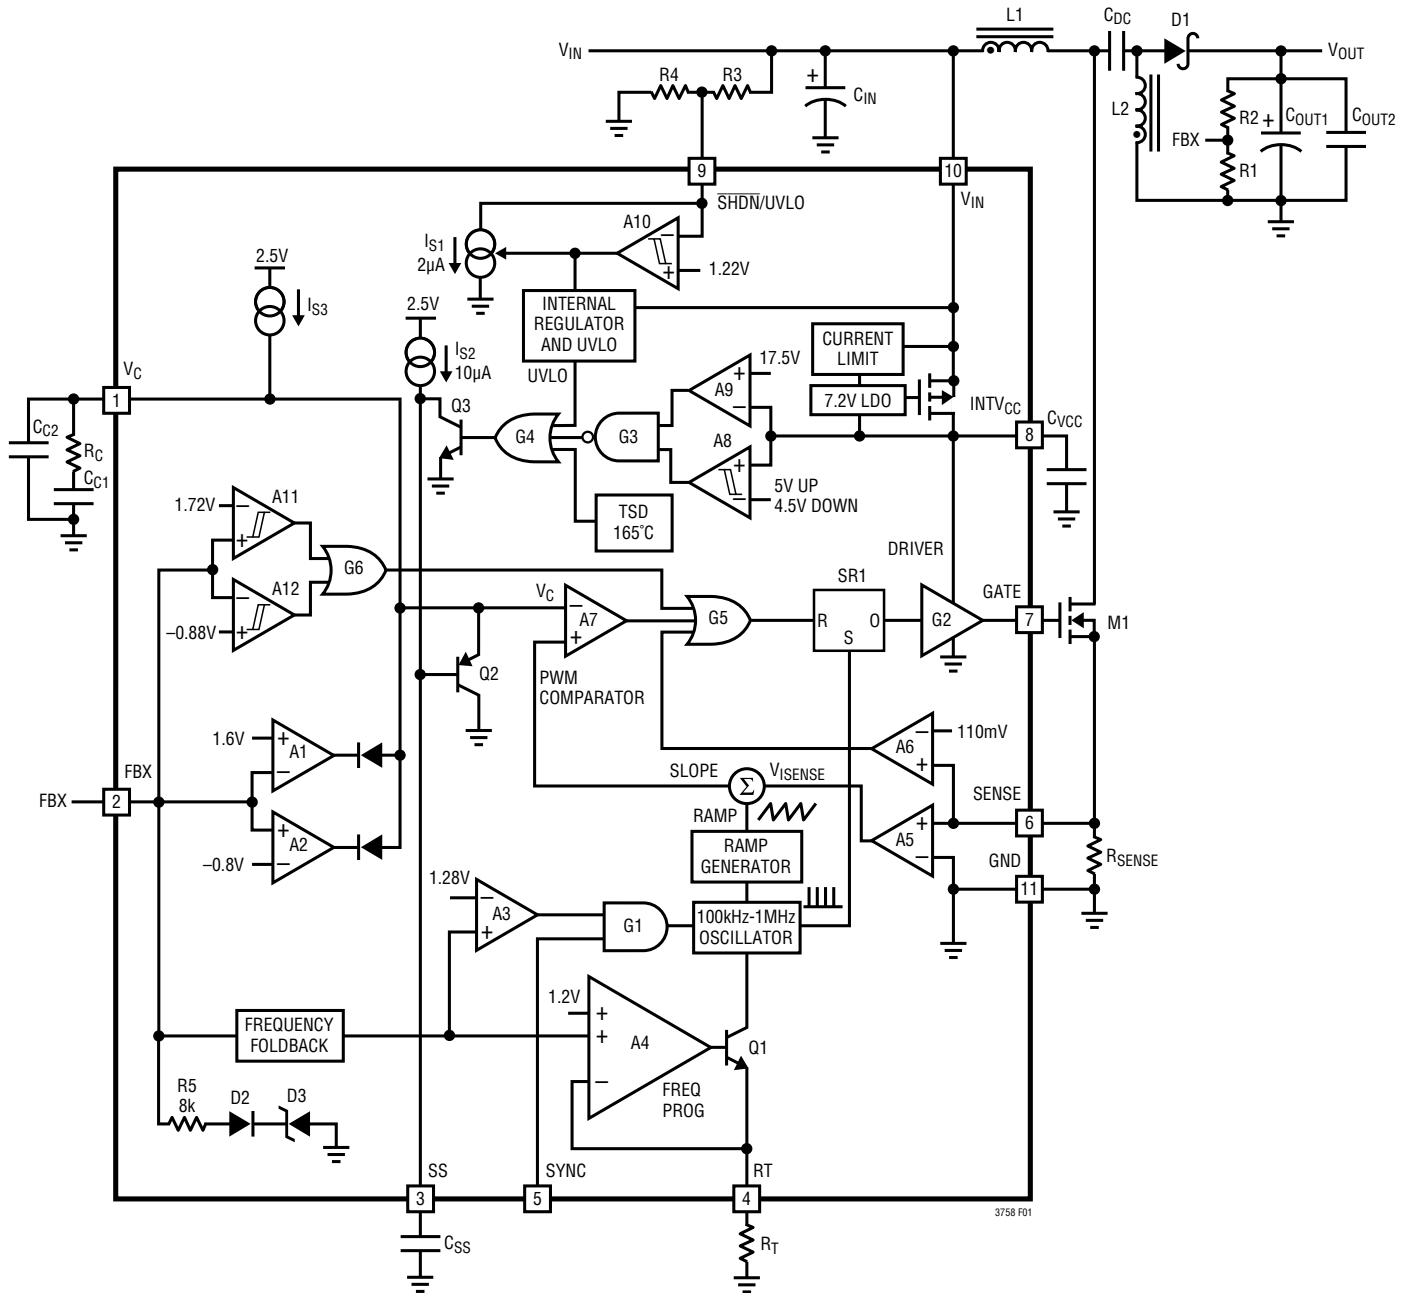

Figure 1. LT3758 Block Diagram Working as a SEPIC Converter
The LT3758 uses a fixed frequency, current mode control scheme to provide excellent line and load regulation. Operation can be best understood by referring to the Block Diagram in Figure 1.
The LT3758 is capable of generating either positive or negative output voltage with a single FBX pin. It can be configured as a boost, flyback or SEPIC converter to generate positive output voltage, or as an inverting converter to generate negative output voltage. When configured as a SEPIC converter, as shown in Figure 1, the FBX pin is pulled up to the internal bias voltage of 1.6V by a voltage divider ($R1$ and $R2$) connected from V_{OUT} to GND. Comparator A2 becomes inactive and comparator A1 performs the inverting amplification from FBX to V_C . When the LT3758 is in an inverting configuration, the FBX pin is pulled down to -0.8V by a voltage divider connected from V_{OUT} to GND. Comparator A1 becomes inactive and comparator A2 performs the noninverting amplification from FBX to V_C .
The purpose of this current is to allow the user to program the rising hysteresis. The Block Diagram of the comparator and the external resistors is shown in Figure 1. The typical falling threshold voltage and rising threshold voltage can be calculated by the following equations:
An internal, low dropout (LDO) voltage regulator produces the 7.2V INTV_{CC} supply which powers the gate driver, as shown in Figure 1. The LT3758 contains an undervoltage lockout comparator A8 and an overvoltage lockout comparator A9 for the INTV_{CC} supply. The INTV_{CC} undervoltage (UV) threshold is 4.5V (typical), with 0.5V hysteresis, to ensure that the MOSFETs have sufficient gate drive voltage before turning on. The logic circuitry within the LT3758 is also powered from the internal INTV_{CC} supply.
The choice of operating frequency may be determined by on-chip power dissipation, otherwise it is a trade-off between efficiency and component size. Low frequency operation improves efficiency by reducing gate drive current and MOSFET and diode switching losses. However, lower frequency operation requires a physically larger inductor. Switching frequency also has implications for loop compensation. The LT3758 uses a constant-frequency architecture that can be programmed over a 100kHz to 1000kHz range with a single external resistor from the RT pin to ground, as shown in Figure 1. The RT pin must have an external resistor to GND for proper operation of the LT3758. A table for selecting the value of R_T for a given operating frequency is shown in Table 1.
The output voltage V_{OUT} is set by a resistor divider, as shown in Figure 1. The positive and negative V_{OUT} are set by the following equations:
In the applications where V_{OUT} is pulled up by an external positive power supply, the FBX pin is also pulled up through the R2 and R1 network. Make sure the FBX does not exceed its absolute maximum rating (6V). The R5, D2, and D3 in Figure 1 provide a resistive clamp in the positive direction. To ensure FBX is lower than 6V, choose sufficiently large R1 and R2 to meet the following condition:
The LT3758 addresses this mechanism with the SS pin. As shown in Figure 1, the SS pin reduces the power MOSFET current by pulling down the V_C pin through Q2. In this way the SS allows the output capacitor to charge gradually toward its final value while limiting the start-up peak currents. The typical start-up waveforms are shown in the Typical Performance Characteristics section. The inductor current I_L slewing rate is limited by the soft-start function.
load transient response, when compared to the LT3758. New internal circuits ensure that the transient from not switching to switching at high current can be made in a few cycles. The optimum values depend on the converter topology, the component values and the operating conditions (including the input voltage, load current, etc.). To compensate the feedback loop of the LT3758/LT3758A, a series resistor-capacitor network is usually connected from the V_C pin to GND. Figure 1 shows the typical V_C compensation network. For most applications, the capacitor should be in the range of 470pF to 22nF, and the resistor should be in the range of 5k to 50k. A small capacitor is often connected in parallel with the RC compensation network to attenuate the V_C voltage ripple induced from the output voltage ripple through the internal error amplifier. The parallel capacitor usually ranges in value from 10pF to 100pF. A practical approach to design the compensation network is to start with one of the circuits in this data sheet that is similar to your application, and tune the compensation network to optimize the performance. Stability should then be checked across all operating conditions, including load current, input voltage and temperature.